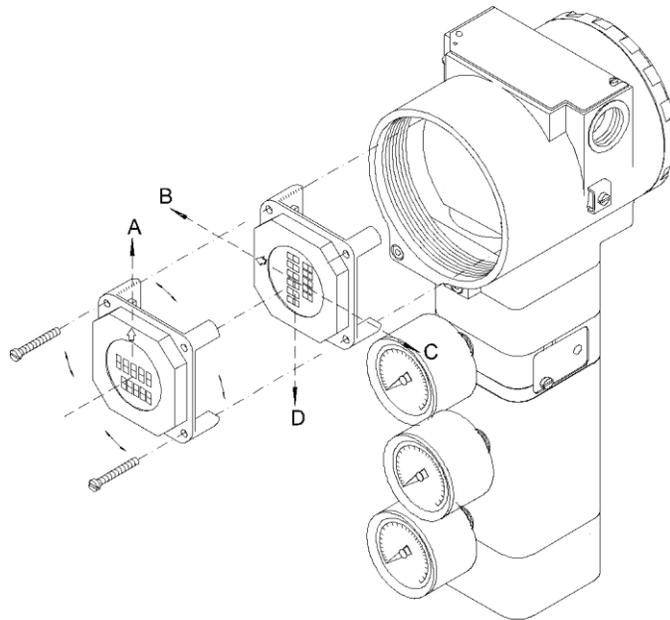

Figure 4.2 - Four Possible Positions of the Local Indicator
Plug the transducer connector and the power supply connector to main board (5). Attach the display to the main board. Observe the four possible mounting positions (Figure 4.2). The ▲ mark indicates up position.